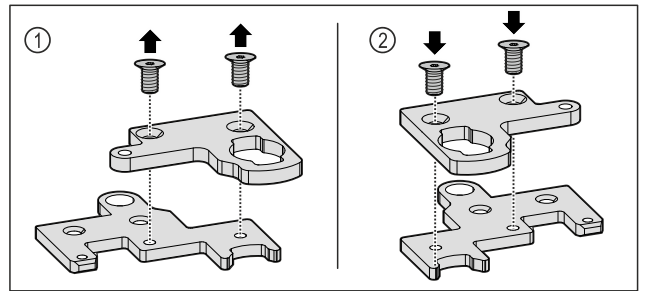

Fig. 35
- ▶ Disassemble the two-part hinge bracket. Fig. 35 (1)
- ▶ Reassemble the two-part hinge bracket rotated by 180°. Fig. 35 (2)